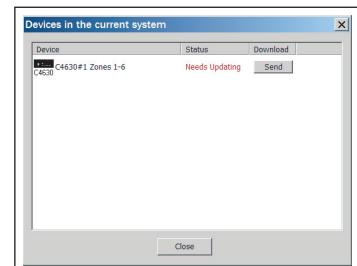

Figure 28: DEVICES IN THE CURRENT SYSTEM Screen
3. Open the COMMUNICATION menu and select SEND TO DEVICE. The DEVICES IN THE CURRENT SYSTEM screen (*Figure 28*) will appear. All C4630 SEs in the system will be listed in the window.